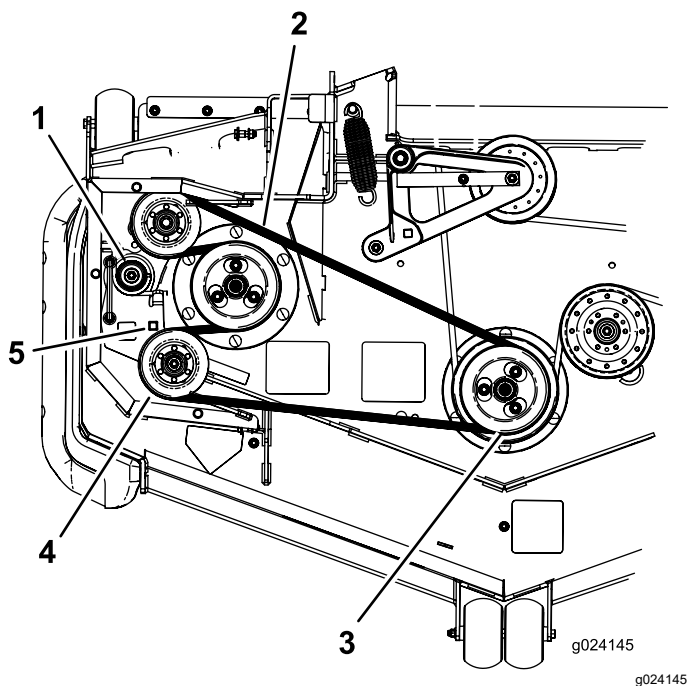

Figure 93
7. Use a ratchet in the square hole in the idler arm to remove tension on the idler spring (Figure 93).
8. Remove the belt from the mower deck pulley (Figure 93).
9. Remove the belt from the remaining pulleys (Figure 93).
11. Using the ratchet in the square hole, remove the tension on the spring, and guide the new belt around the idler pulley (Figure 93).